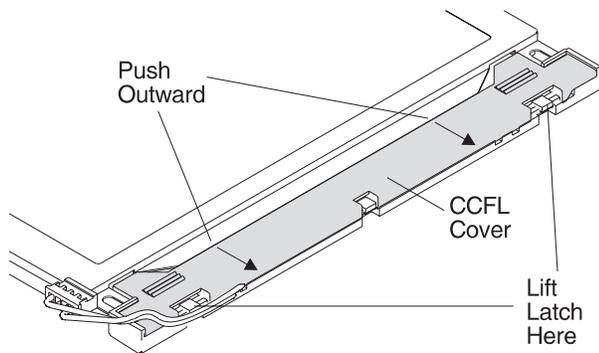

Figure 3-12. Opening the CCFL Front Cover
- 3 Remove the CCFL cover by lifting the latches and pushing the cover outward as shown in Figure 3-12.
- b. Make sure that CCFL cables are seated completely into the groove and routed over the corner of the cover as shown in Figure 3-12.